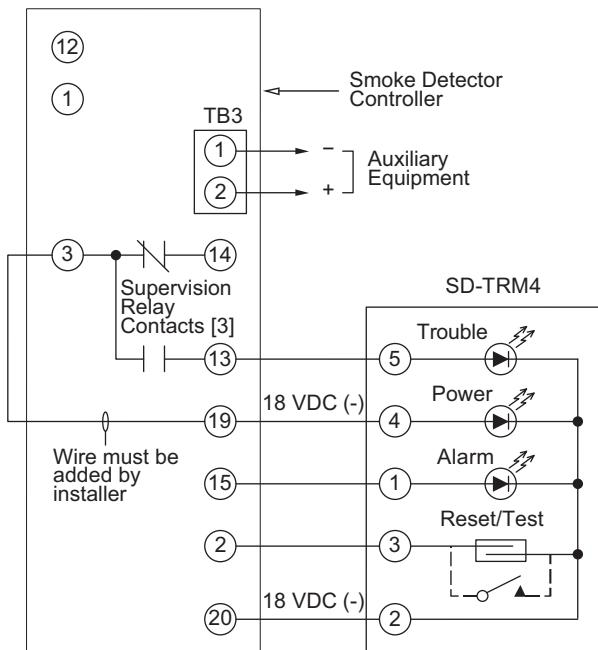

Fig. 59 – Remote Test/Reset Station Connections
The test/reset station dirty sensor test checks the test/reset station's ability to initiate a sensor dirty test and indicate the results. It must be wired to the controller as shown in Fig. 59 and configured to operate the controller's supervision relay. For more information, see "Dirty Sensor Test" on page 40.
1. Verify that the remote test/station is wired as shown in Fig. 59. Repair or replace loose or missing wiring.